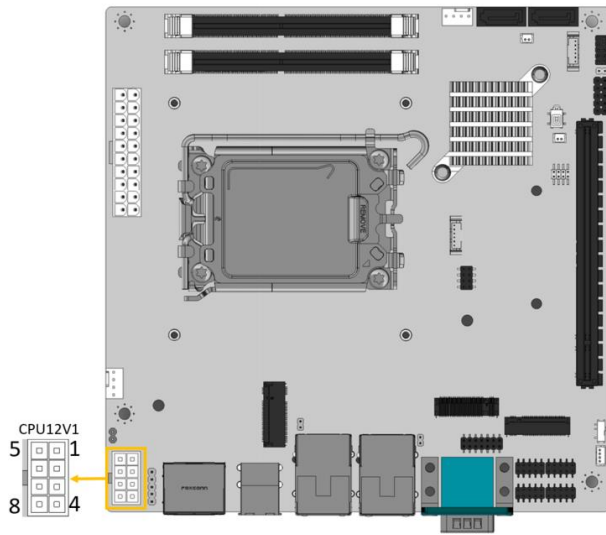

Figure 3-12: Internal Power Connector Pinout Location
- CN Location:** See **Figure 3-12**